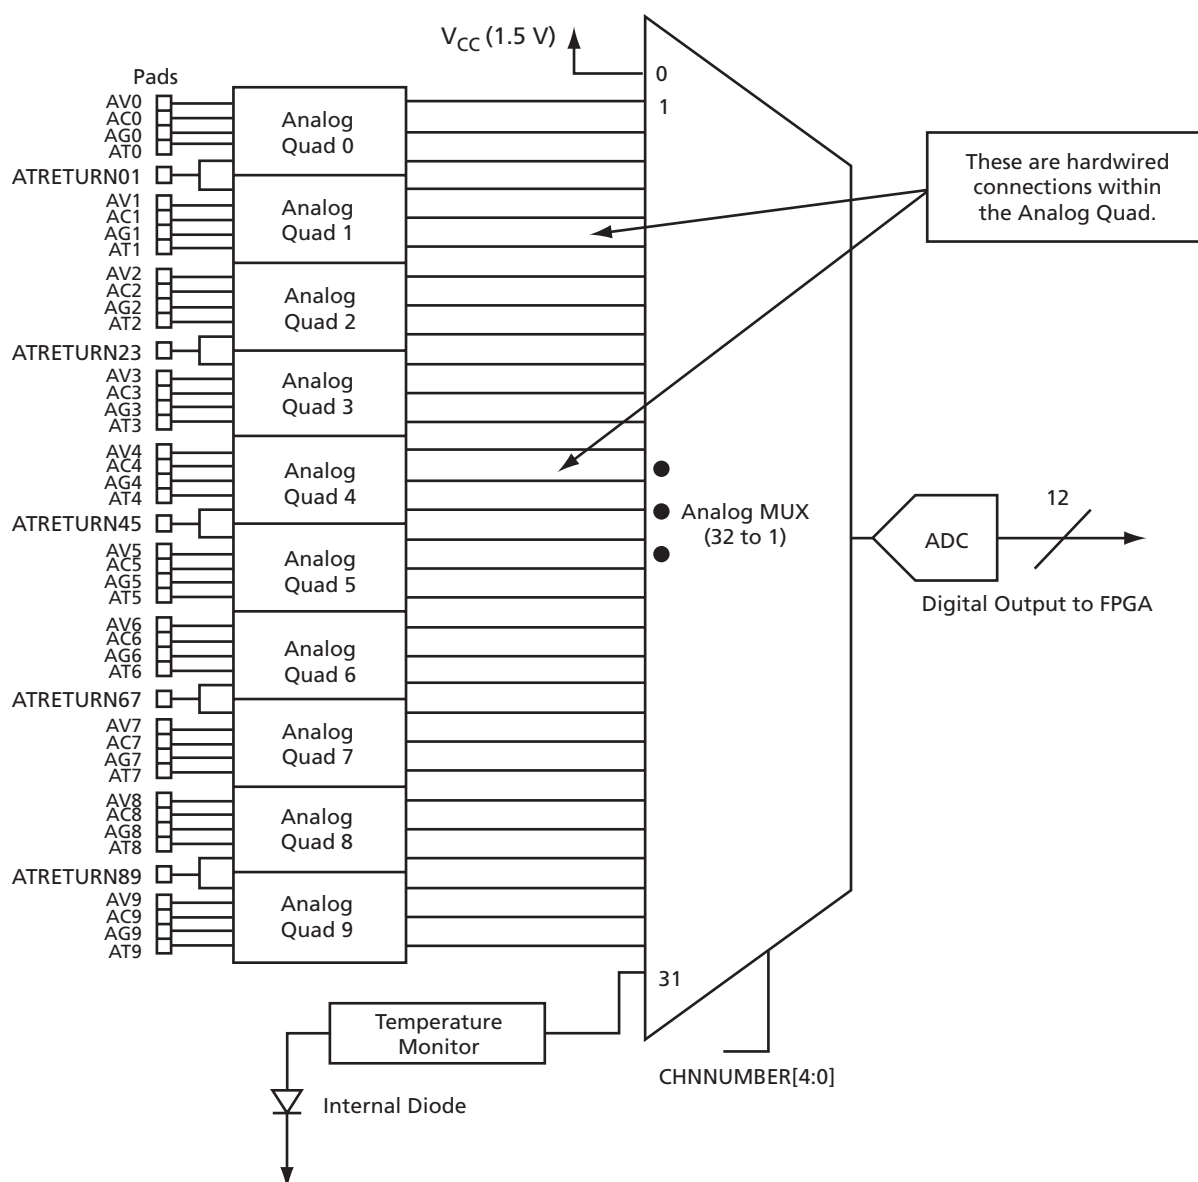

Figure 8-4 • Analog Block ADC and MUX Architecture
As described in the *Fusion Family of Mixed-Signal Flash FPGAs* datasheet and illustrated in Figure 8-4, there is one ADC in the Analog Block (AB) and up to ten Analog Quads, with three analog inputs each: AV, AC, and AT. The analog input to ADC is selected through a MUX architecture controlled by the CHNUMBER select input. FPGA fabric access to the CHNUMBER input of the AB provides users the flexibility to define custom sample sequencing among the Analog Quads.
There is no automatic internal sequencing in the architecture shown in Figure 8-4 on page 8-7. Therefore, the CHNUMBER input of the MUX must be controlled and defined by the user's design at all points throughout its implementation (e.g., Smartgen IP, CoreAI (Analog Interface) register space, and custom logic).